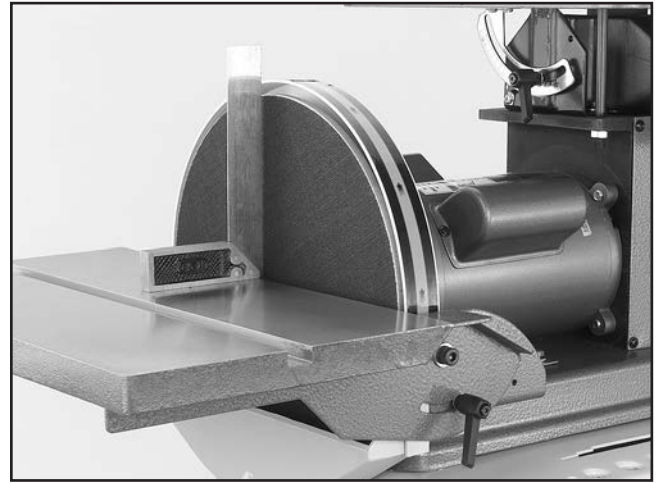

Figure 12. Squaring the disc sanding table.
2. Using a machinist square, set one edge on the table surface and the other against the face of the sanding disc as shown in **Figure 12**. Note—*This can be done with the sandpaper installed, although it is somewhat easier to measure if the disc does not have the sandpaper disc installed.*